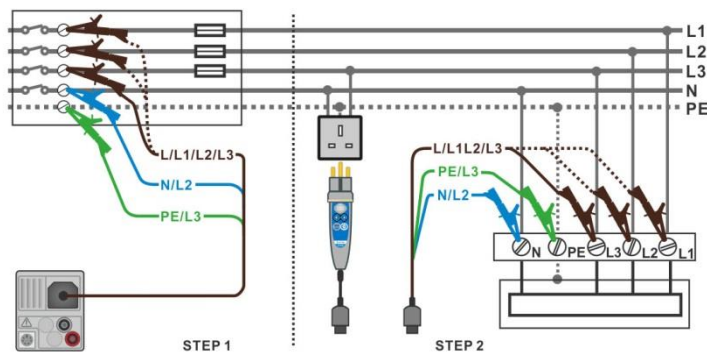

Figure 7.53: Voltage drop measurement – connection of Plug commander and 3-wire test lead
- › Connect test leads to the origin of electrical installation, see **Figure 7.53**.
- Connect test leads or Plug commander to the tested points, see **Figure 7.53**.